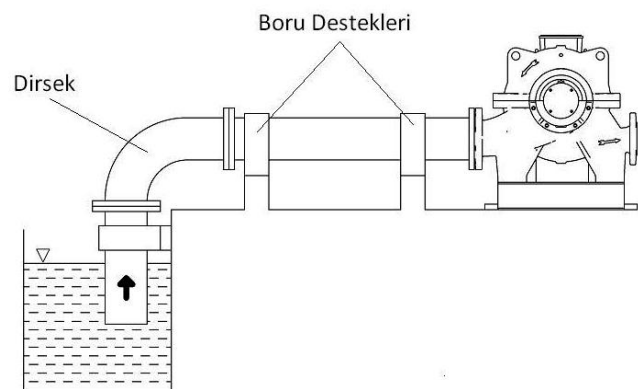

Figure 4 -1 Suction from Depth
- Pipe system should be supported from points which are close to pipe. Figure 4